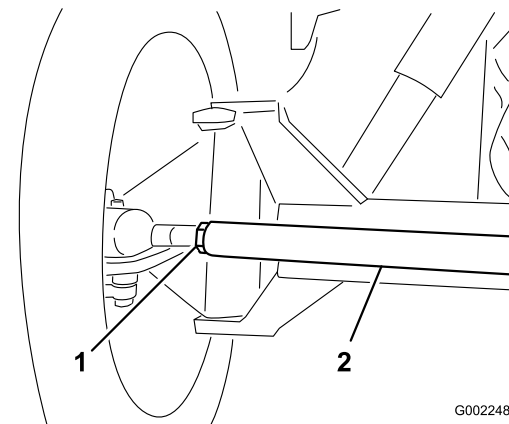

Figure 102
3. If the measurement does not fall within the specified range, loosen the jam nuts at both ends of the tie rod (Figure 102).